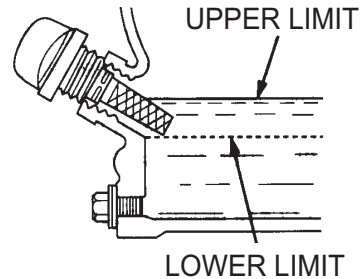

Figure 5. Engine Oil Dipstick (Oil Level)
4. If the oil level is low (Figure 5), fill to the edge of the oil filler hole with the recommended oil type (Table 5). Maximum oil capacity is .63 quarts (.60 liters).